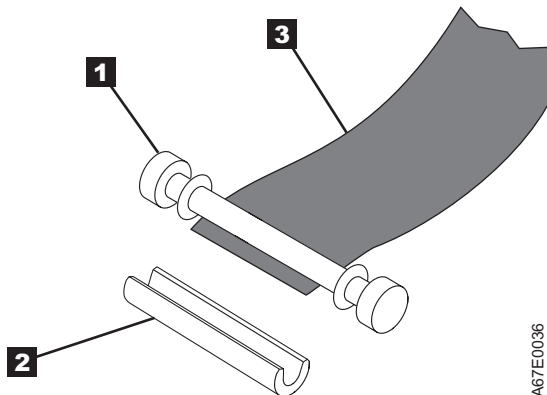

Figure 126. Removing the C-clip from the leader pin. Use your fingers to push the C-clip from the leader pin.
5. On the leader pin (**1** in Figure 126), locate the open side of the C-clip **2** . The C-clip is a small black part that secures the tape **3** to the pin.